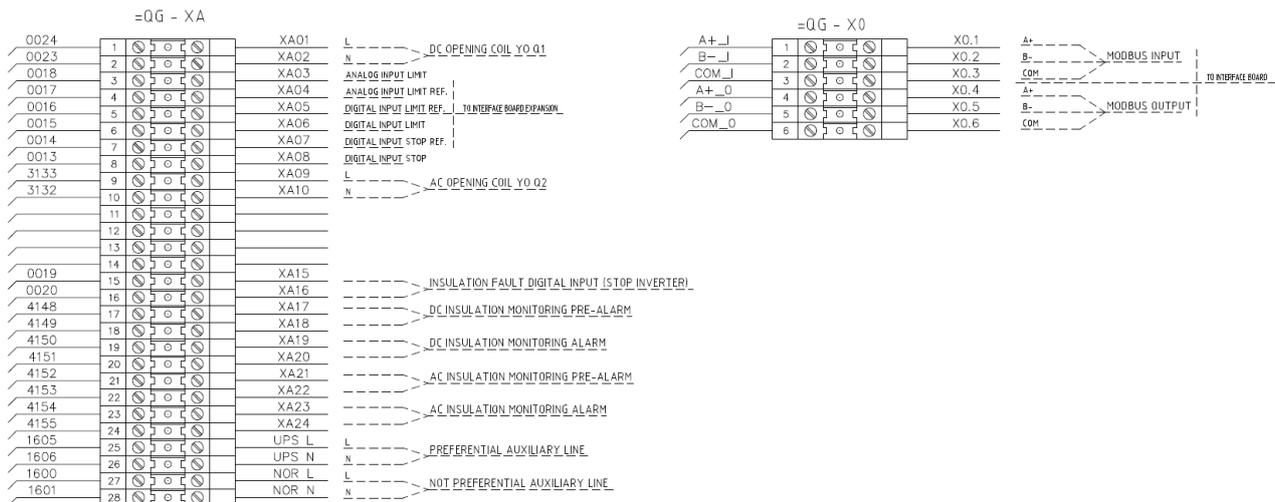

Figure 6
- **XA19 e XA20:** *Normal line* for power cooling fans of the inverter (the switch Q3 in Figure 6 is the one related to fans)
- **XA17 e XA18:** *Preferred Supply by UPS* for power the electronic board and the control circuit of the inverter (the switch Q4 in Figure 6 is the one related to this function)